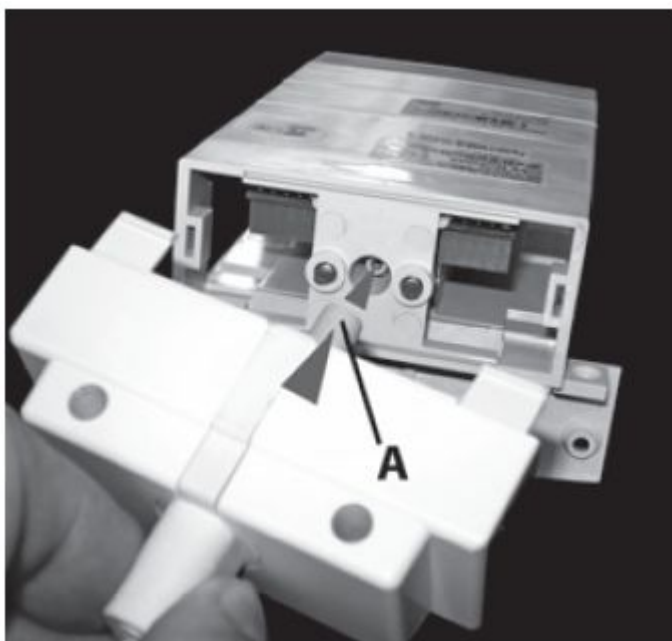

Figure 10
- Widen the end of the air tube (see A on figure 10) by using a suitable tool so that it fits over the nozzle of the tube connector. Push the air tube over the nozzle. Assemble the cover and the distributor block. Ensure that the spring catches click into place.